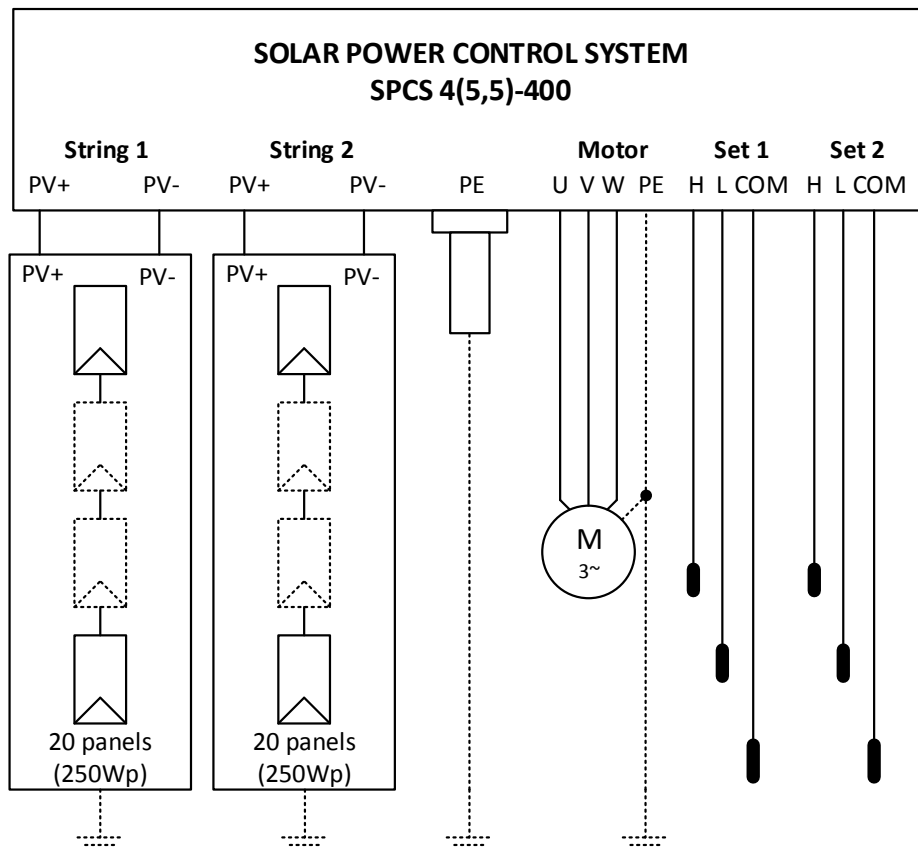
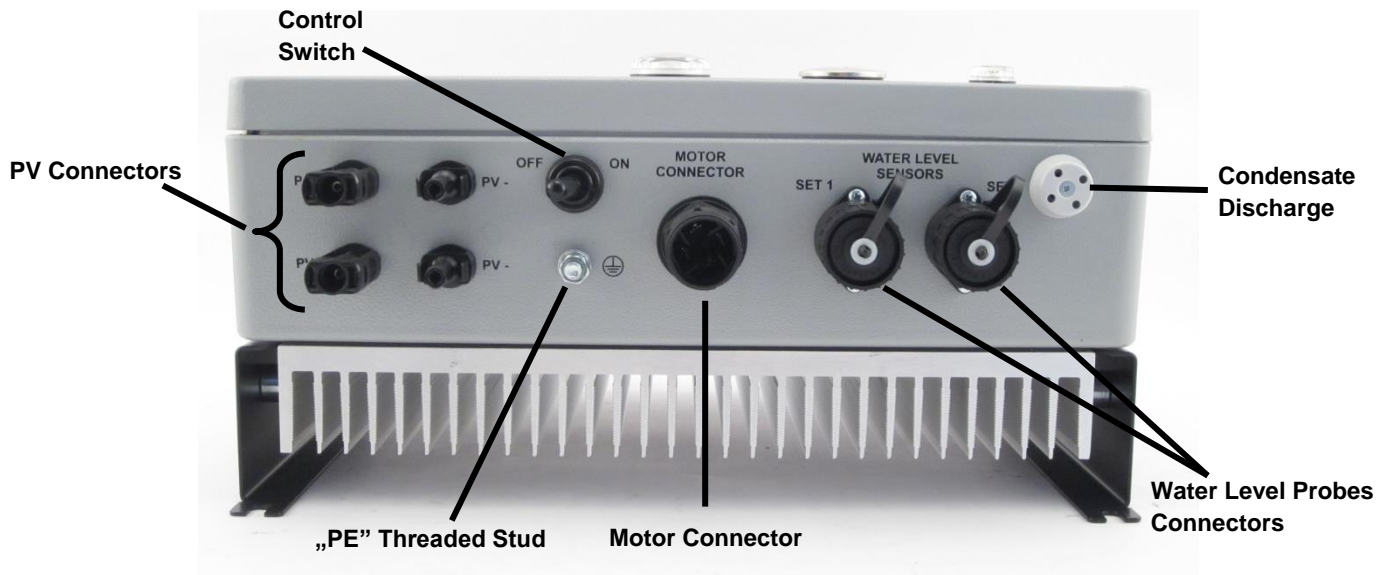

Figure 3.4. SPCS 4(5,5)-400 connections block diagram
Figure 3.5. SPCS 4(5,5) – 400 bottom side.
Connections of the drive are shown on *Figure 3.4*, *Figure 3.5*. and *Table 3.3* down below:
The wiring diagram of SPCS 4(5,5) - 400 is shown on *Figure 3.4*.
For more detailed information regarding to positions of the drive connections and indications of the SPCS 4(5,5)-400 drive, please see *Figure 3.5* below.
- 3. CONNECT THE SAFETY EARTH TO THE 'PE' THREADED STUD - Figure 3.5**